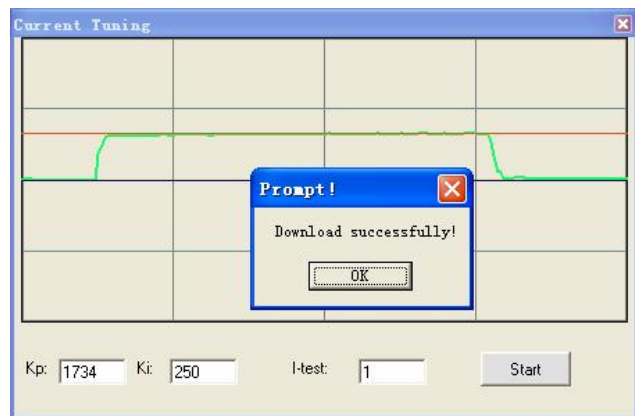

Figure 24: Finish tuning and save setting to the Drive
**Start** button: The user can start a Step Response test by clicking this button. Start/Restart a Step Response test to get an optimum response like Figure 22, and remember to save the settings to the Drive when finish tuning. See Figure 24.